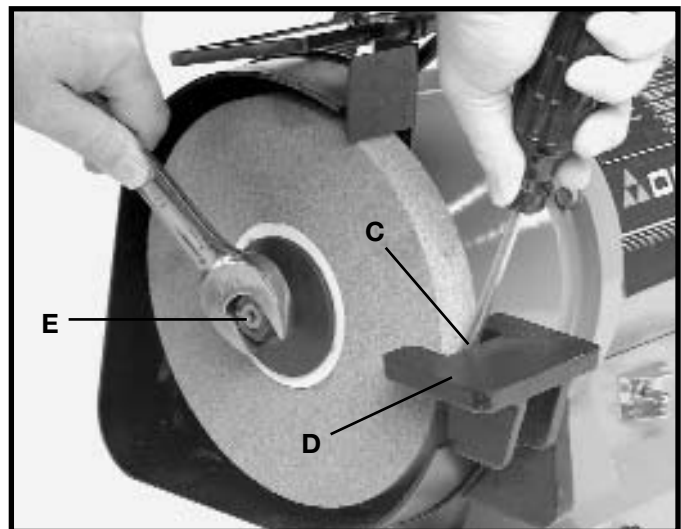

Fig. 21
2. To prevent shaft rotation, place a wedge (D) Fig. 21, between the grinding wheel (C) and the tool rest. **NOTE:** Facing the front of the grinder: to replace the wheel on the left side of the grinder, turn the arbor nut (E) Fig. 21, clockwise to loosen; counterclockwise to tighten the arbor nut.
3. To replace the grinding wheel on the right, turn the arbor nut (E), counterclockwise to loosen; clockwise to tighten the arbor nut.